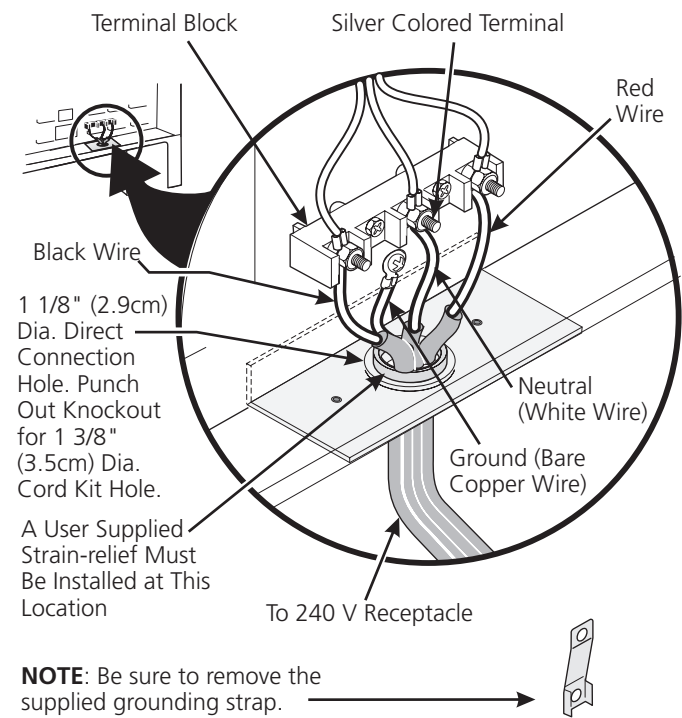

Figure 4
**NOTE:** Electric Slide-in Range is shipped from factory with 1 1/8" (2.9 cm) dia. hole as shown on figure 4. If a larger hole is required, punch out the knockout.
Where local codes does NOT permit connection of the frame grounding conductor to the neutral wire of the copper power supply cord (see Figure 4):
3. Using the nuts supplied with the literature package, connect the ground wire (green) of the copper power supply cord to the frame of the appliance with the ground screw, using the hole in the frame where the ground strap was removed (see Figure 4).